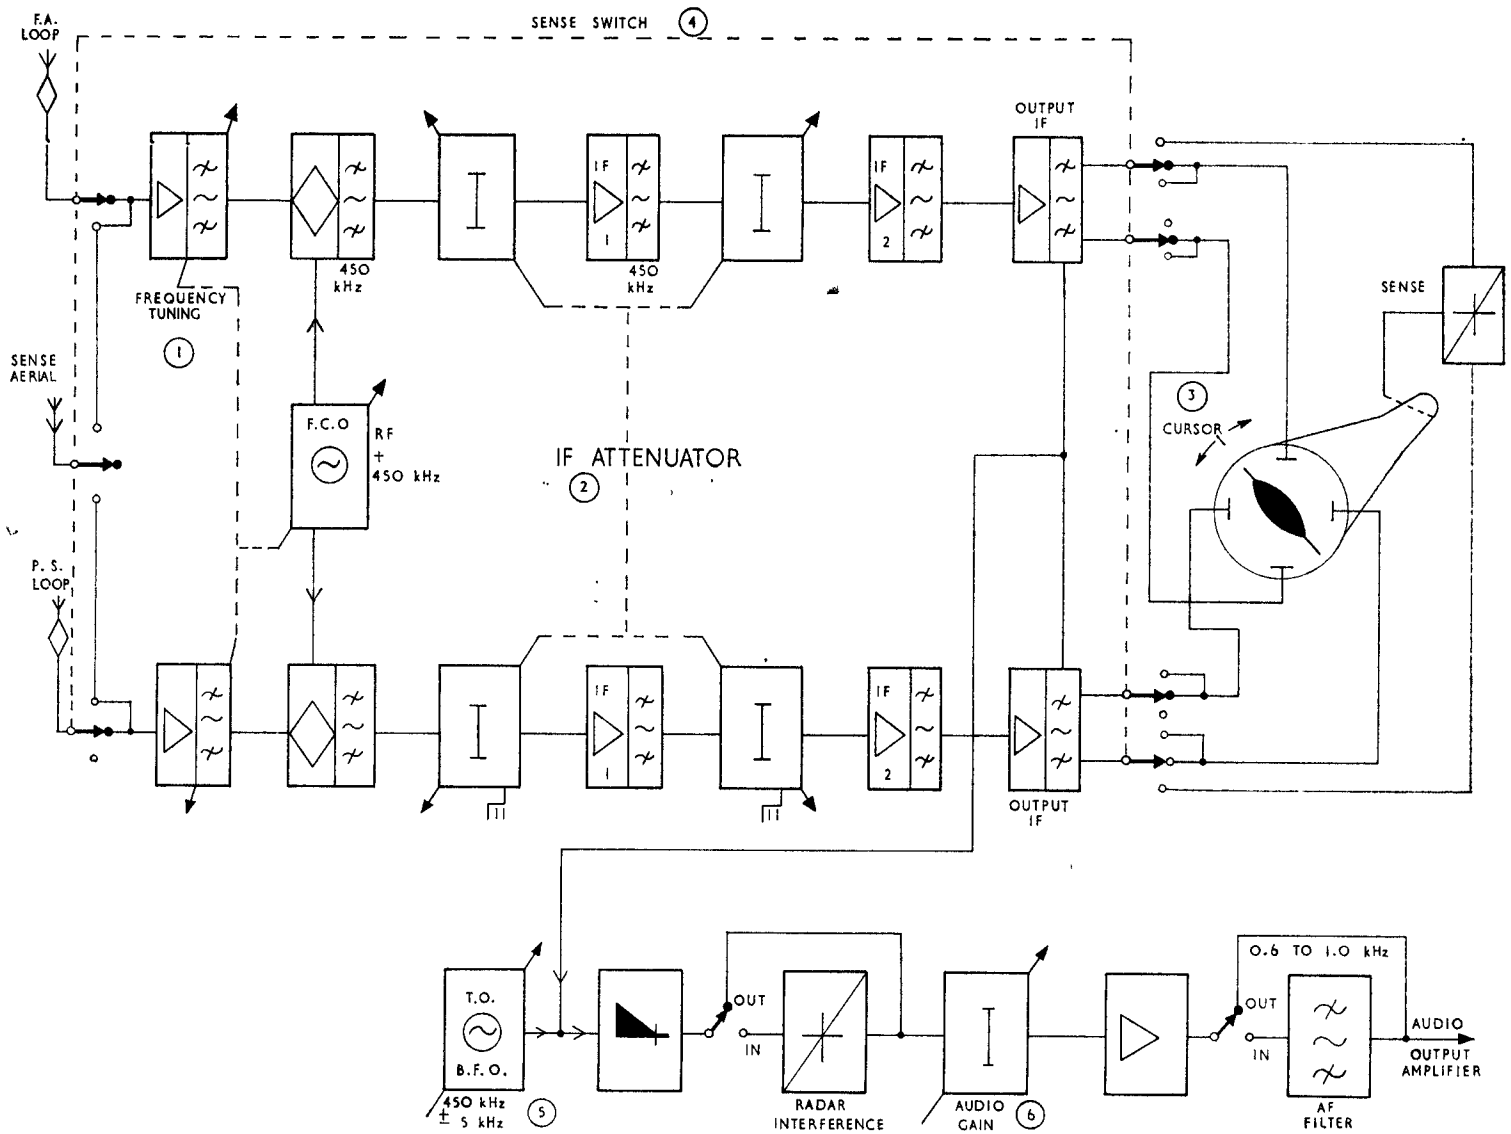

FIG. 3. HF DF SYSTEM FH4 - CONTROLS USED TO TAKE A BEARING - BLOCK DIAGRAM
7. Taking a Bearing. Fig. 3 shows diagrammatically the units of the receiver which are controlled and adjusted during this process.